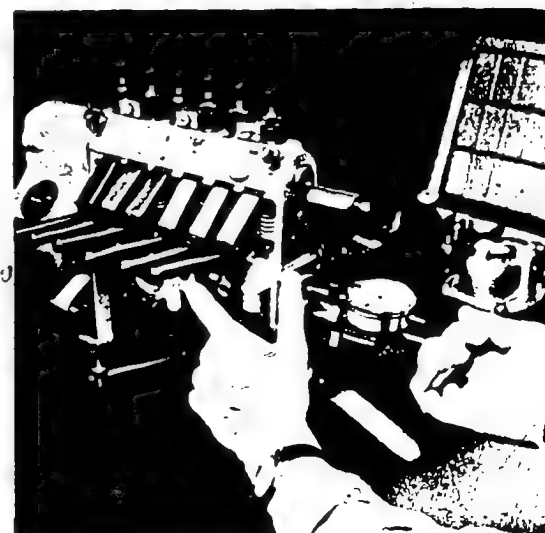

Fig. 62 Measuring the end play of camshaft
- d) Draw accurately axially on device while setting dial gauge to "0" (Fig. 62).